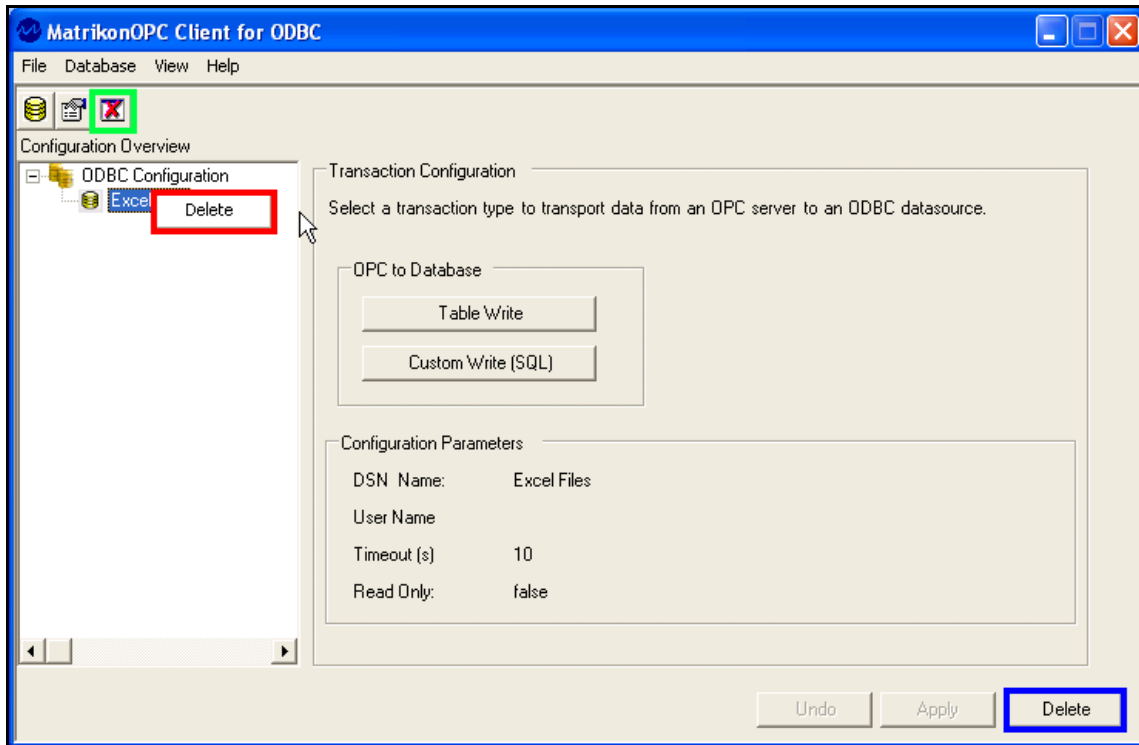

Figure 15 - Deleting Database Connection
- Right click on the desired database icon in the **Configuration Overview** pane and select **Delete** (highlighted in **red** in Figure 15) from the displayed menu, or
- Click on the **Delete** button (highlighted in **blue** in Figure 15) at the bottom right of the **Configuration** window, or
- Click on the **Delete** icon  (highlighted in **green** in Figure 15) on the toolbar.